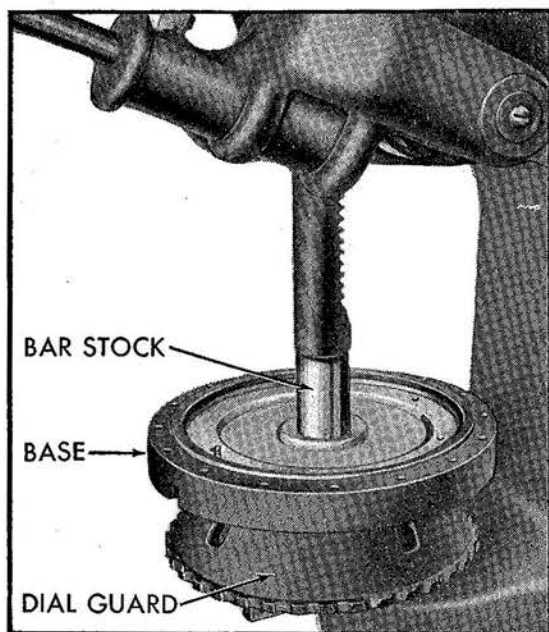

Figure 27.—Removal of Shaft Seal Assembly
19. With an arbor press, push out the shaft seal assembly. (See Figure 27.)